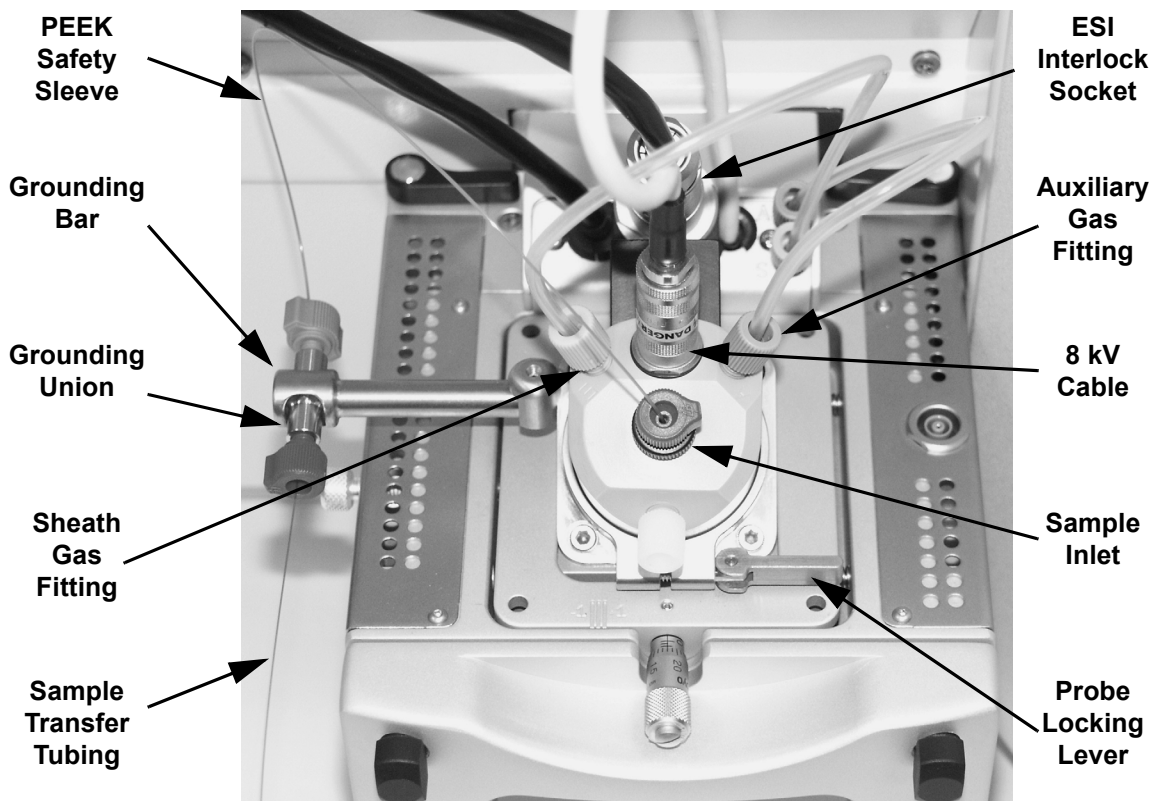

Figure 6-3. Ion Max ion source housing with ESI probe installed
2. Disconnect the sample transfer tubing from the stainless steel ZDV fitting (grounding union). See Figure 6-3.
3. Remove the 8 kV cable from the ESI needle high voltage receptacle: (See Figure 6-3.)
4. Disconnect the AUX Gas fitting (green) from the auxiliary gas inlet (A) on the probe manifold. See Figure 6-3.
5. Disconnect the Sheath Gas fitting (blue) from the sheath gas inlet (S) on the probe manifold.